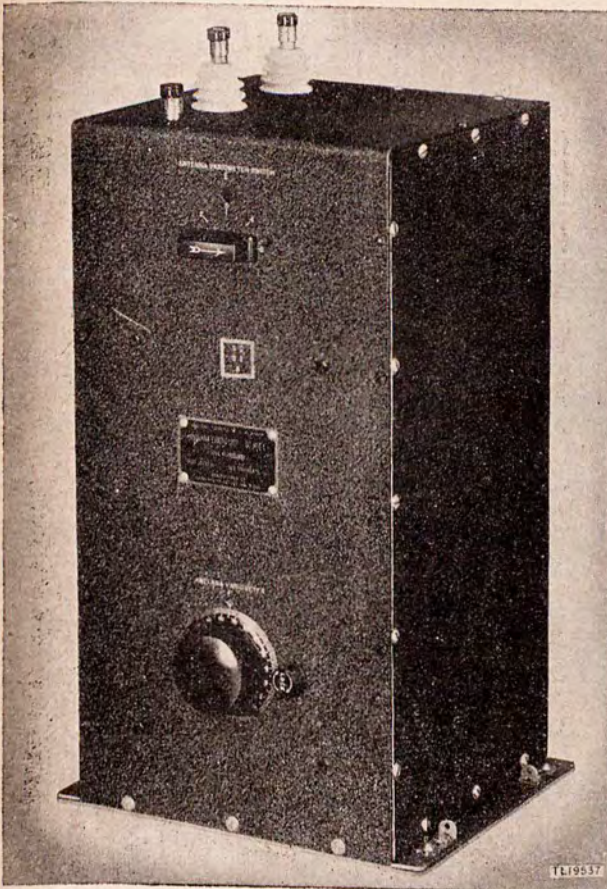

Figure 29. Antenna Tuning Unit BC-306-(\*).
a. GENERAL. Antenna Tuning Unit BC-306-(\* ) (figs. 29, 30, and 31) is an external tuning unit used for loading the antenna when Radio Transmitter BC-191-(\* ) is used with tuning units covering frequencies below 800 kilocycles. Coil 1502 is a tapped variometer used to furnish the additional series inductive reactance loading required to resonate the antenna on the